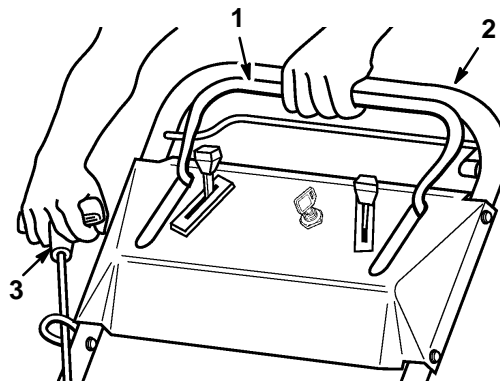

Figure 16
3. Hold blade control bail against upper handle (Fig. 16).
B. MANUAL STARTING (All models)—Pull starter handle (Fig. 16) lightly until resistance is felt, then pull sharply. Let rope return to handle slowly.